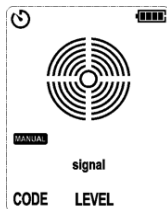

Figure 9.2.1b Manual Mode
1. Power on the receiver and then it enters MANUAL mode (default reception sensitivity: 6), as shown in Figure 9.2.1b.